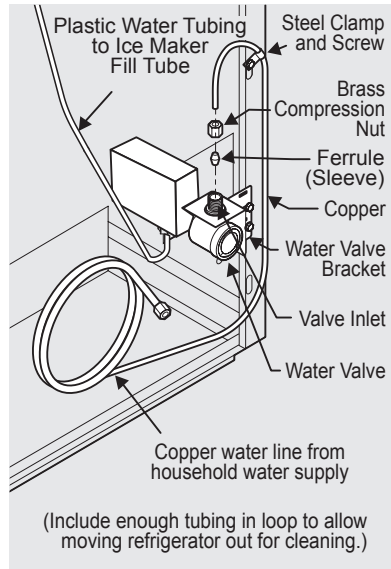

Figure 1
4. **If you use copper tubing** - Slide brass compression nut, then ferrule (sleeve) onto water supply line. Push water supply line into water valve inlet as far as it will go ( $\frac{1}{4}$  in. / 6.4 mm). Slide ferrule (sleeve) into valve inlet and finger tighten compression nut onto valve. Tighten another half turn with a wrench; DO NOT overtighten. See Figure 1.